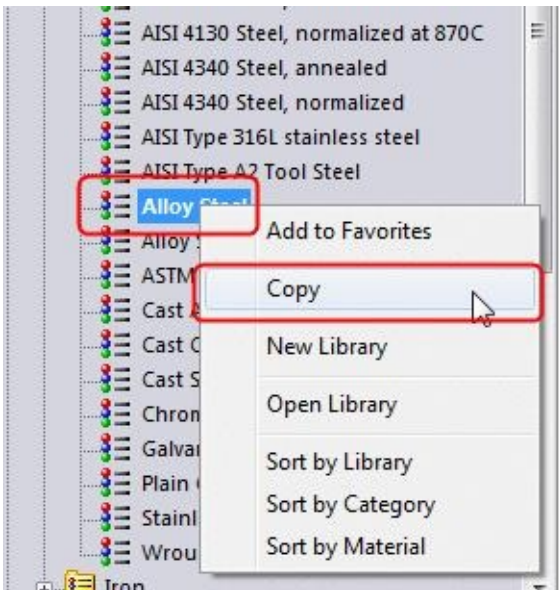

Figure-4. Copy option for material
- Right-click on the material whose properties are close to the material you want to create and select the **Copy** option from the short-cut menu displayed; refer to Figure-4.